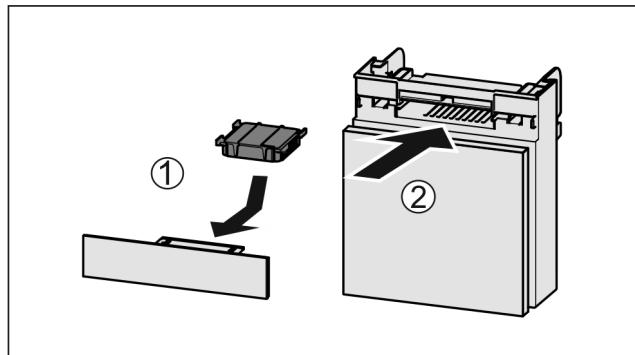

Fig. 74
- Insert the carbon filter as shown in the diagram Fig. 74 (1).
► Push the compartment in Fig. 74 (2).